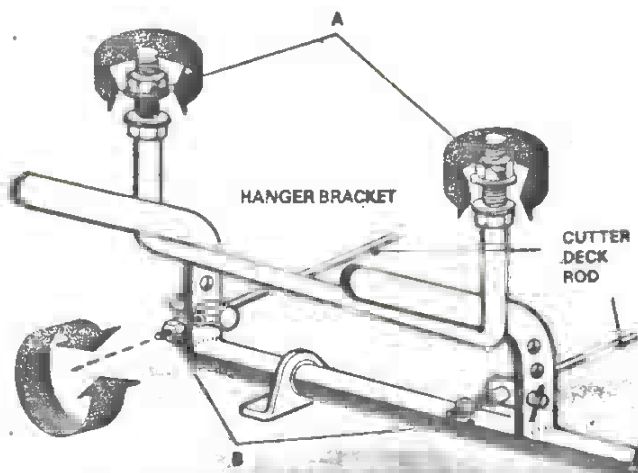

Figure 8. Cutter Deck Levelling Adjustment Points
- 2) Identify and locate the Hanger Bracket where it bolts into chassis near rear end of tractor. (See Figure 8. Cutter Deck Levelling Adjustment Points, Section A).
- 2) Locate end of rods that run from front to back of Cutter Deck (See Figure 8. Cutter Deck Levelling Adjustment Points, Section B).
- 3) With a spanner turn the adjusting nut clockwise until Cutter Deck is level. (See Figure 8. Cutter Deck Levelling Adjustment Points, Section B).